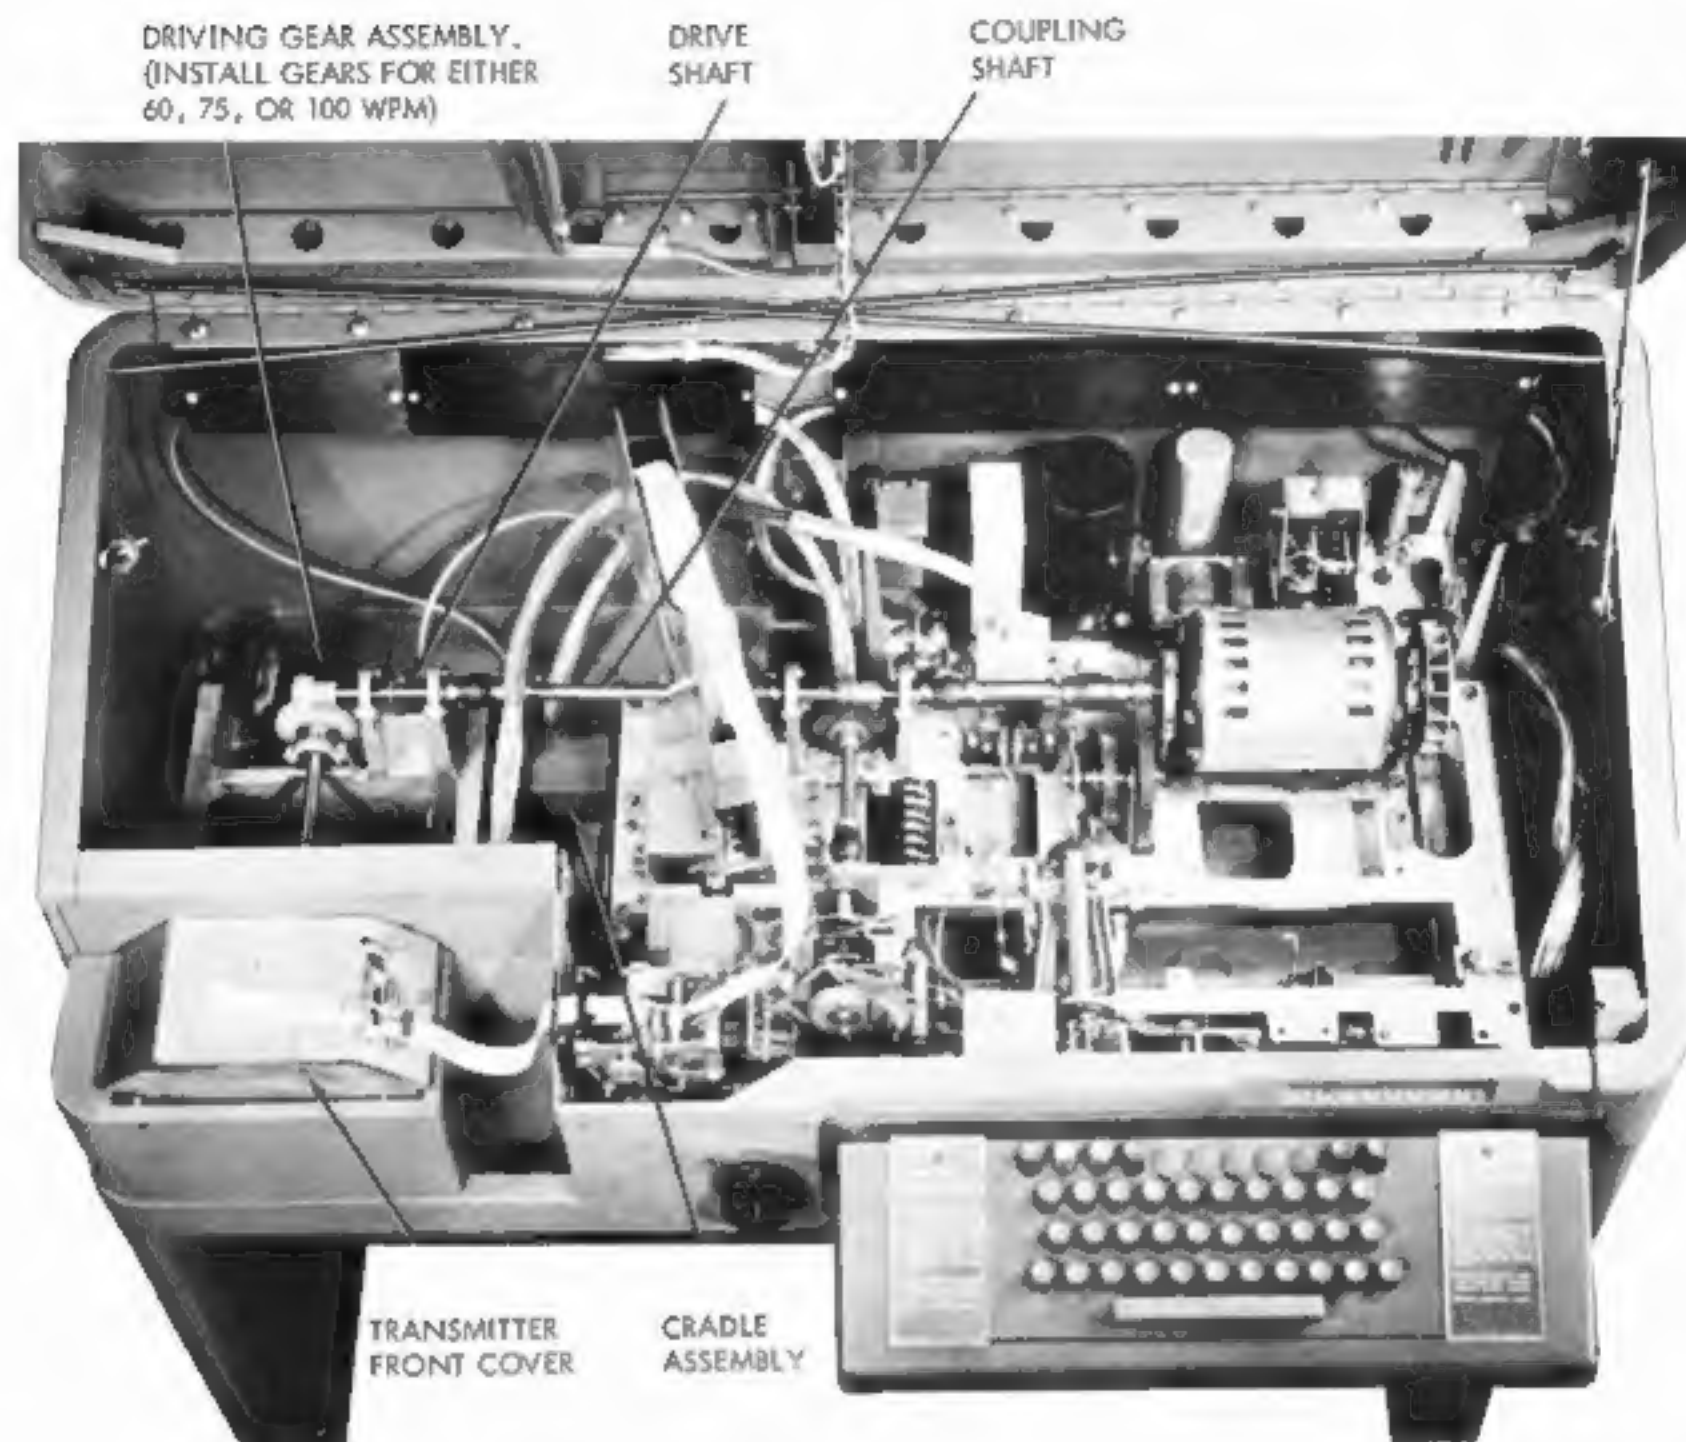

FIGURE 4-3. AUTOMATIC SEND-RECEIVE SET
(1) To remove the switch slide arm assembly, remove the two screws, one nut, and spacer which secure the intermediate plate to the center plate. Remove the nut which secures the bail mounting post to the center plate. Remove the intermediate plate, and remove the bail and slide arm assembly. To replace, reverse disassembly procedure.
(2) To remove the tape-out switch, remove the mounting screws that secure the switch to the front plate. Loosen the screw securing the 158535 post to the center plate. Remove the screw far enough to allow post removal. Replace in reverse order.
3. DISASSEMBLY AND REASSEMBLY OF BASE (LCXB) THAT SUPPORTS THE TRANSMITTER DISTRIBUTOR ON THE AUTOMATIC SEND-RECEIVE SET (Refer to Figure 4-3)